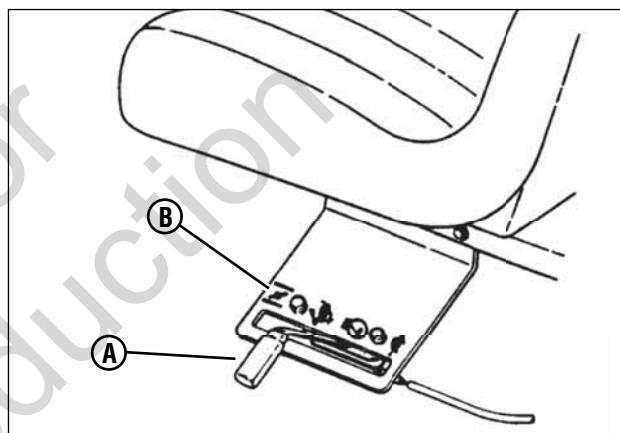

Figure 6: Engine speed control
4. Move the engine speed control (**A**, Figure 6) to the choke position (**B**) to start a cold engine.
4. Move the engine speed control (A, Figure 6) to the choke position (B) to start a cold engine.